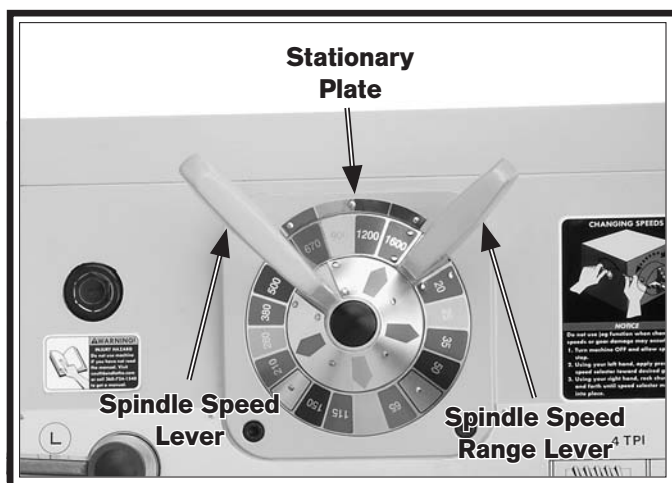

Figure 66. Spindle speed of 1600 RPM is selected.
3. Move the spindle speed range lever (see **Figure 66**) so that the colors of the selected spindle speed range align with those of the stationary plate.